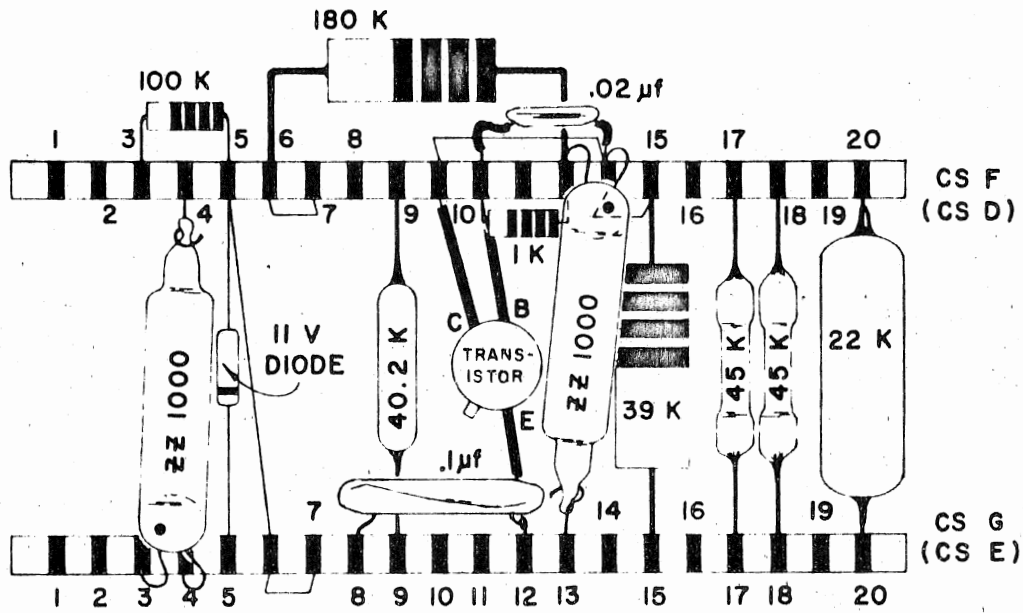

Fig. 6
20. Solder the following wires and components to the points indicated in Fig. 6.
Solder the transistor leads as follows (see Fig. 6):